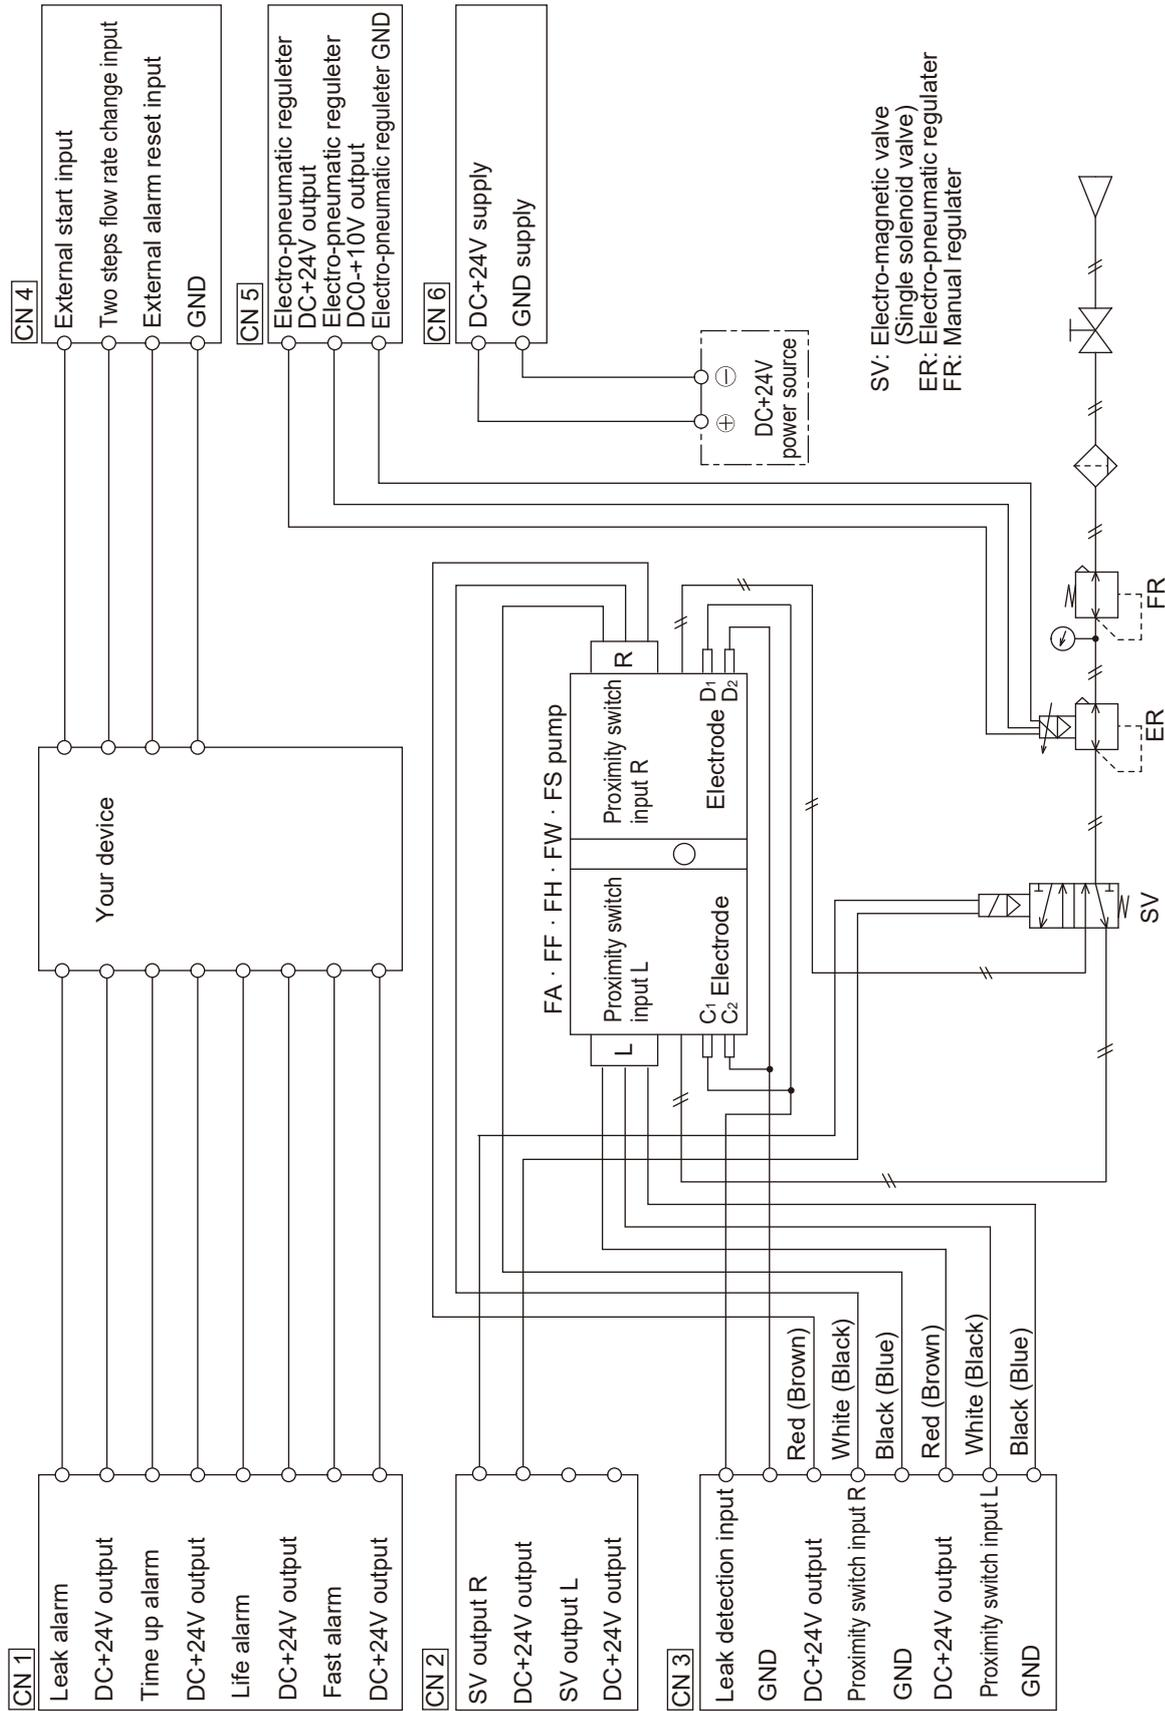

Fig. 5 Wiring for single solenoid valve.
Figure 5 and 6 show electrical wiring and air piping schemes. Make the air piping according to following procedures referring to the schemes.
- d) If the electro-pneumatic regulator is not used, connect pipe from manual regulator (FR) on Fig. 5 and 6 to the solenoid valve.